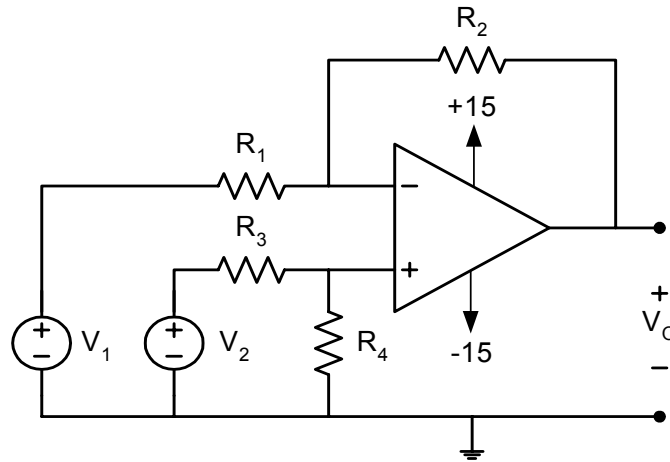

Figure 1. General amplifier schematic
2. Using the principle of superposition, calculate the output response to the bias currents and offset voltage for the case of an inverting amplifier case ( $R_3=R_4=0$  in Figure 1). Your answer is referred to later as **Equation (2)** and it should be the total  $V_{\text{error}}$  at the output due to these sources of offset when you zero the input voltages  $V_1$  and  $V_2$ .
3. Repeat the analysis for the case of a non-inverting amplifier case ( $R_3$  and  $R_4$  are non zero). **Equation (3)**.
- Construct an inverting amplifier from a LF411 (or similar) integrated circuit op amp using the general circuit shown in Figure 1 with resistor values  $R_1 = 1\text{-k}\Omega$ ,  $R_2 = 39\text{-k}\Omega$ , and  $R_3=R_4=0$ .
- Adjust the function generator to produce a sinusoidal waveform  $V_1=0.1\text{-V}$  peak to peak ( $V_{pp}$ ) at a frequency of about 1-kHz and observe the output voltage on an oscilloscope. Use the scope in the x-y mode to verify that this is indeed an inverting amplifier with  $V_O$  on channel 2 and  $V_1$  on channel 1 and measure the gain  $V_O/V_1$ . Compare your results with **Equation (1)**.